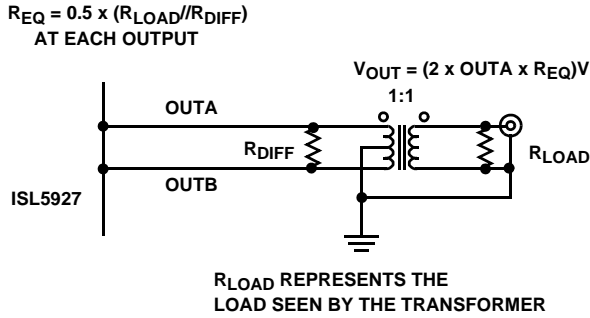
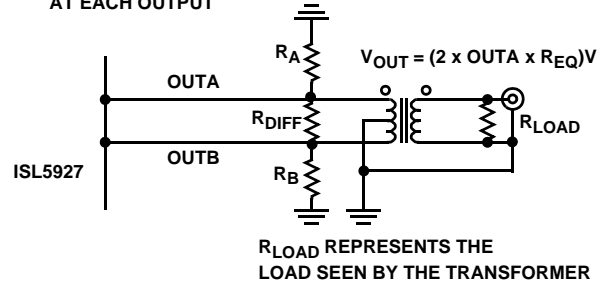

FIGURE 13. OUTPUT LOADING FOR DATASHEET MEASUREMENTS
FIGURE 14. ALTERNATIVE OUTPUT LOADING
**Typical Performance** (+3.3V Supply, Using Figure 13 with  $R_{DIFF} = 100\Omega$  and  $R_{LOAD} = 50\Omega$ )
**Typical Performance** (+3.3V Supply, Using Figure 13 with  $R_{DIFF} = 100\Omega$  and  $R_{LOAD} = 50\Omega$ ) (Continued)
IOUTA and IOUTB can be used in a differential-to-single-ended arrangement to achieve better harmonic rejection. With RDIFF = 50Ω and RLOAD = 50Ω, the circuit in Figure 13 will provide a 500mV (-2.5dBm) signal at the output of the transformer if the full scale output current of the DAC is set to 20mA (used for the electrical specifications table). Values of RDIFF = 100Ω and RLOAD = 50Ω were used for the typical performance curves to increase the output power and the dynamic range. The center tap in Figure 13 must be grounded.
In the circuit in Figure 14, the user is left with the option to ground or float the center tap. The DC voltage that will exist at either IOUTA or IOUTB if the center tap is floating is IOUTDC × (RA/RB) V because RDIFF is DC shorted by the transformer. If the center tap is grounded, the DC voltage is 0V. Recommended values for the circuit in Figure 14 are RA = RB = 50Ω, RDIFF = 100Ω, assuming RLOAD = 50Ω. The performance of Figure 13 and Figure 14 is basically the same, however leaving the center tap of Figure 14 floating allows the circuit to find a more balanced virtual ground,